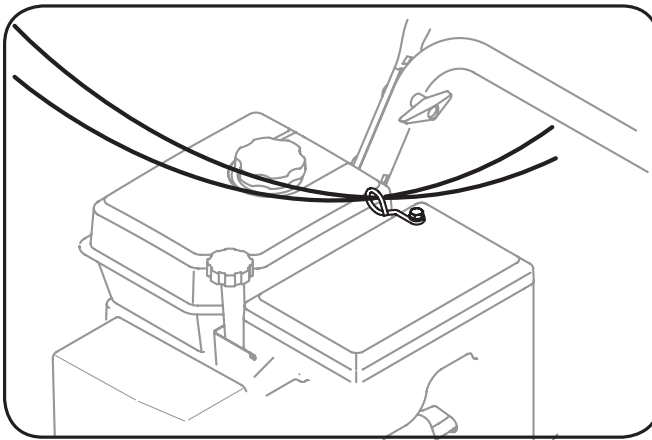

Fig. 3-8
- If not already attached, slip the cables that run from the handle panel to the discharge chute into the cable guide. See Figure 3-8.